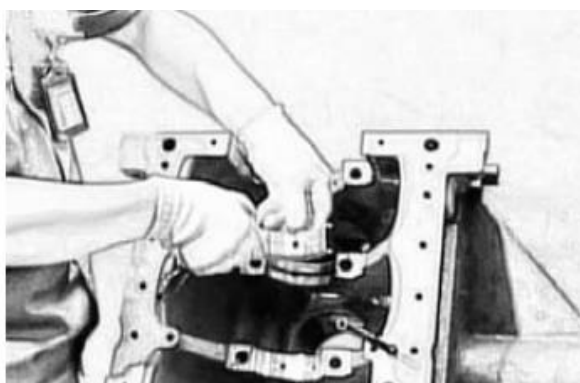

Fig 5-3 Main Bearing Installation
1.3 When installing main bearing, one with hole should be installed on cylinder block, other without hole should be on cover. Counted from rear end of crankshaft, the 2nd bearing bush is trust bearing, it should be installed in right position (see Fig 5-3).